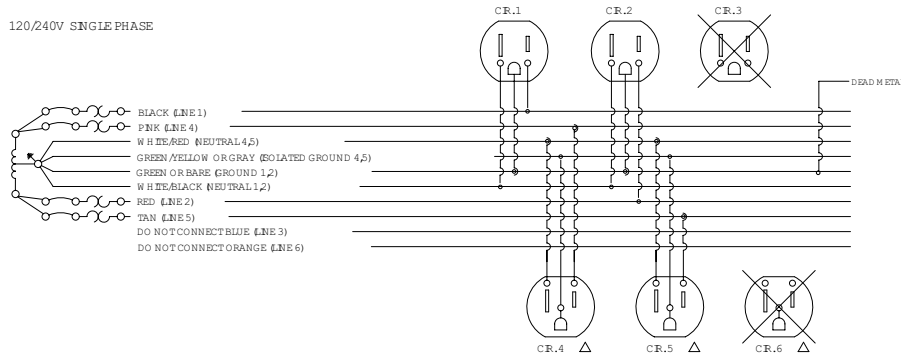

**Figure 4**
14. Route the power and data module cord through the power and data module hole in the worksurface. Snap the module into the module hole (Figure 4).
16. Level the worksurfaces by turning the adjustable glides either in or out. The jambnuts between the adjustable glides and the bottom of the leg sets must be tightened up against the bottom of the leg to secure the adjustable glides. Tighten all screws that gang the worksurfaces together at this time (Figure 4).
17. Vertical wireways fasten into each other from each side of the leg set opening and must be oriented correctly to snap together. Begin by first positioning an "outer vertical wireway" (single-cut-out), to the outside of the leg set as illustrated, with cut-out closest to worksurface. Next position the inner wireway cover (two cut-outs) in the correct orientation at the inside of the leg set and snap it into the outer wireway (Figure 4). For end-of run tables, snap a vertical wireway cap into the upper, outside cut-out in the vertical wireway, and install leg plugs into holes in the vertical leg members to finish table off (Figure 4).